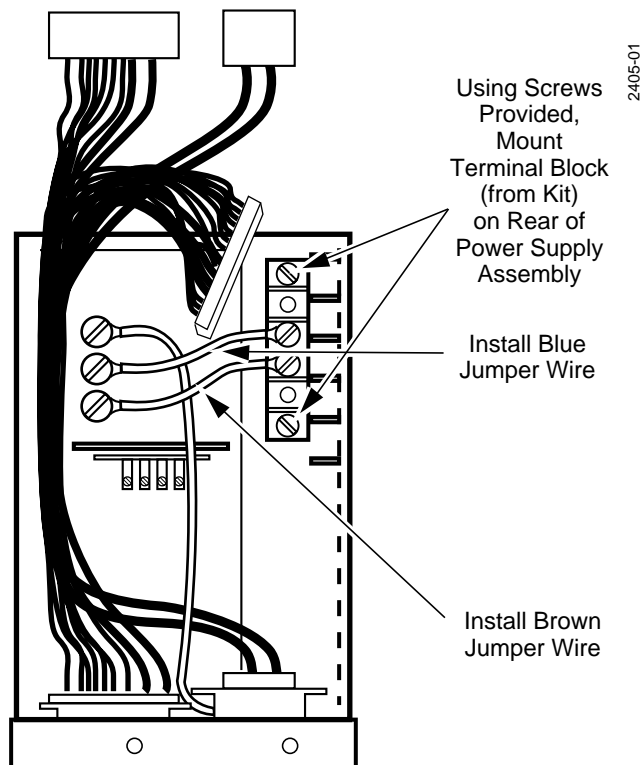

Figure 4-6. Installation of Terminal Block and Jumpers
1. Before installing the new power supply unit in the frame, mount the terminal block (provided in the Field Modification kit) on the rear of the Todd Multi-Output power assembly, as shown in Figure 4-6. The terminal block has four terminals, but only two will be used. Remove and discard the four tab connectors from the terminal block, but keep two of the screws for the next step.
2. Install the blue and brown jumper wires from the kit as shown in Figure 4-6. Connect only the power supply ends for now. (You will have to disconnect the wires from the terminal block again when connecting the frame wiring later in this procedure.
3. At the terminal block you just installed on the Todd power unit, connect the blue and brown AC power wires you previously disconnected from the Pioneer supply, as shown in Figure 4-6. (These may be reached and pushed back into the power supply area from the front of the frame if necessary.)